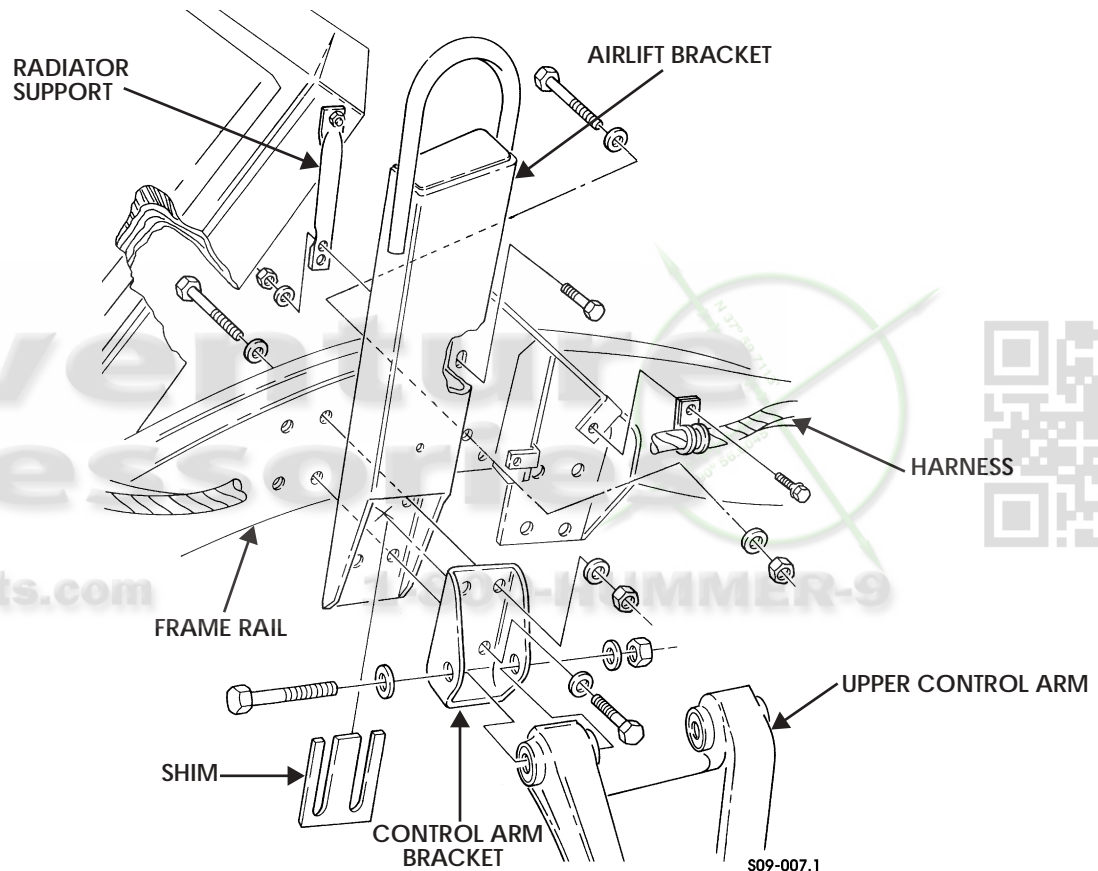

Figure 9-19: Left Airlift Bracket and Front Upper Control Arm Brackets
3. Remove three screws and clamps securing harness to airlift bracket (Figure 9-19).
1. Install airlift bracket, shim(s), and two control arm brackets on frame rail with eight washers, capscrews, washers, and locknuts. Tighten locknuts to 90 lb-ft (122 N•m) (Figure 9-19).